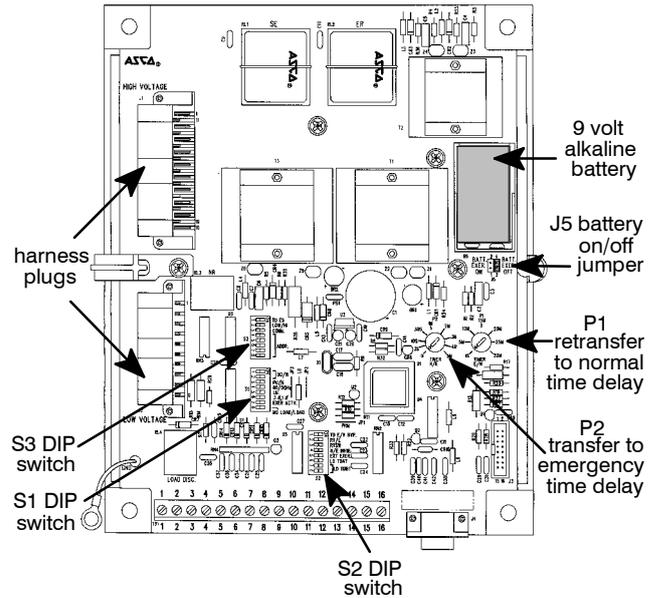
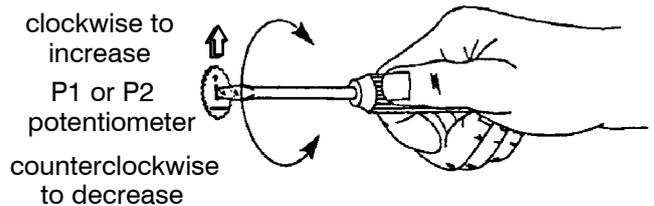
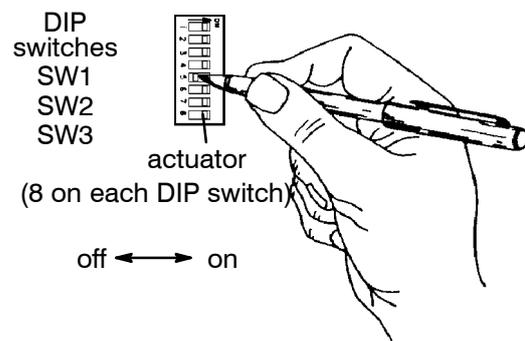

Figure 4-2. Location of potentiometers, DIP switches, battery, and battery jumper.
Figure 4-3. Changing time delay potentiometers.
Figure 4-4. Setting DIP switch actuators.
4. Locate the appropriate adjustment potentiometer or DIP switch for the setting that you want to change. Refer to Table 4-1 and Table 4-2 on page 4-1 and Figure 4-2, Figure 4-3, Figure 4-4 on page 4-2.
5. Use a small screwdriver to turn the potentiometer clockwise to increase the time delay or counterclockwise to decrease it. See Figure 4-3.
6. Use a ball-point pen (or similar pointed tool) to slide the switch actuators left or right so they match the illustration next to the setting (left = off, right = on). Recheck the setting. See Figure 4-4.